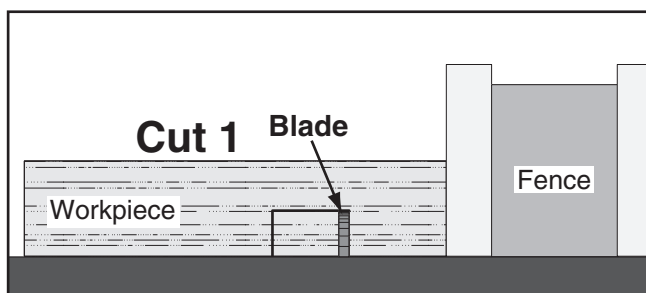

Figure 118. First cut for a single-blade dado.
4. Align workpiece with blade to cut one dado side, as shown in **Figure 118**, then align rip fence with workpiece.